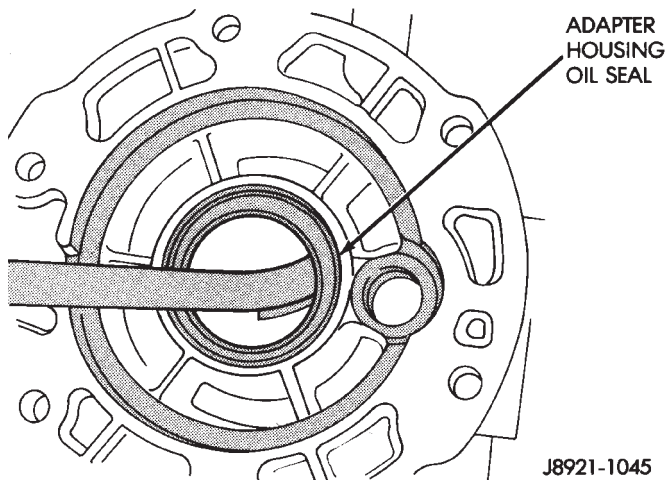

Fig. 15 Removing Adapter Housing Seal
(16) Remove adapter housing oil seal with a pry tool (Fig. 15).